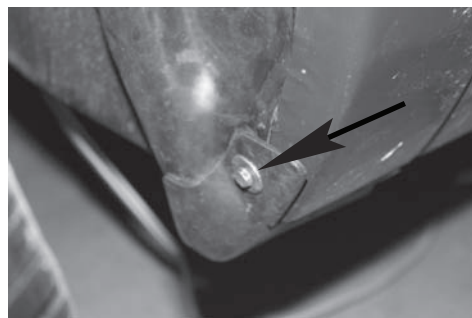

Figure 5
10. Using a 8mm socket remove bolt on drivers side wheel well area shown in **Figure 5**. Starting at the left side of driver's side wheel well route a fish tape up and over to the right side. Secure 4-Flat connector to it and pull through wheel well cover.